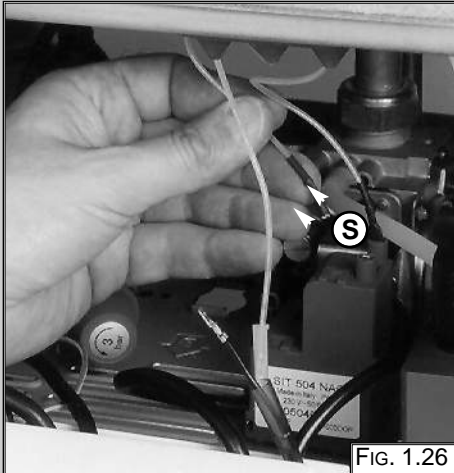

FIG. 1.26
1. Disconnect ignition leads "S" by pulling upward (FIG. 1.26);